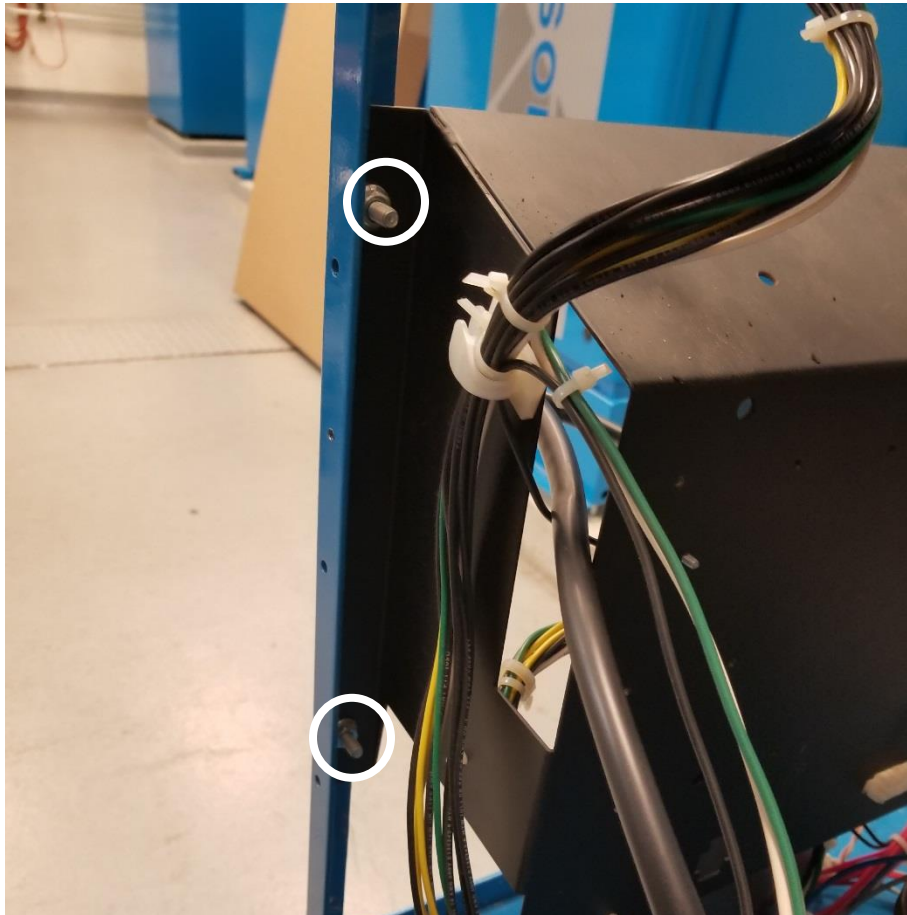

Figure 7
10. Remove 4 11/32" nuts on control panel and remove from cabinet shown in figure 7.